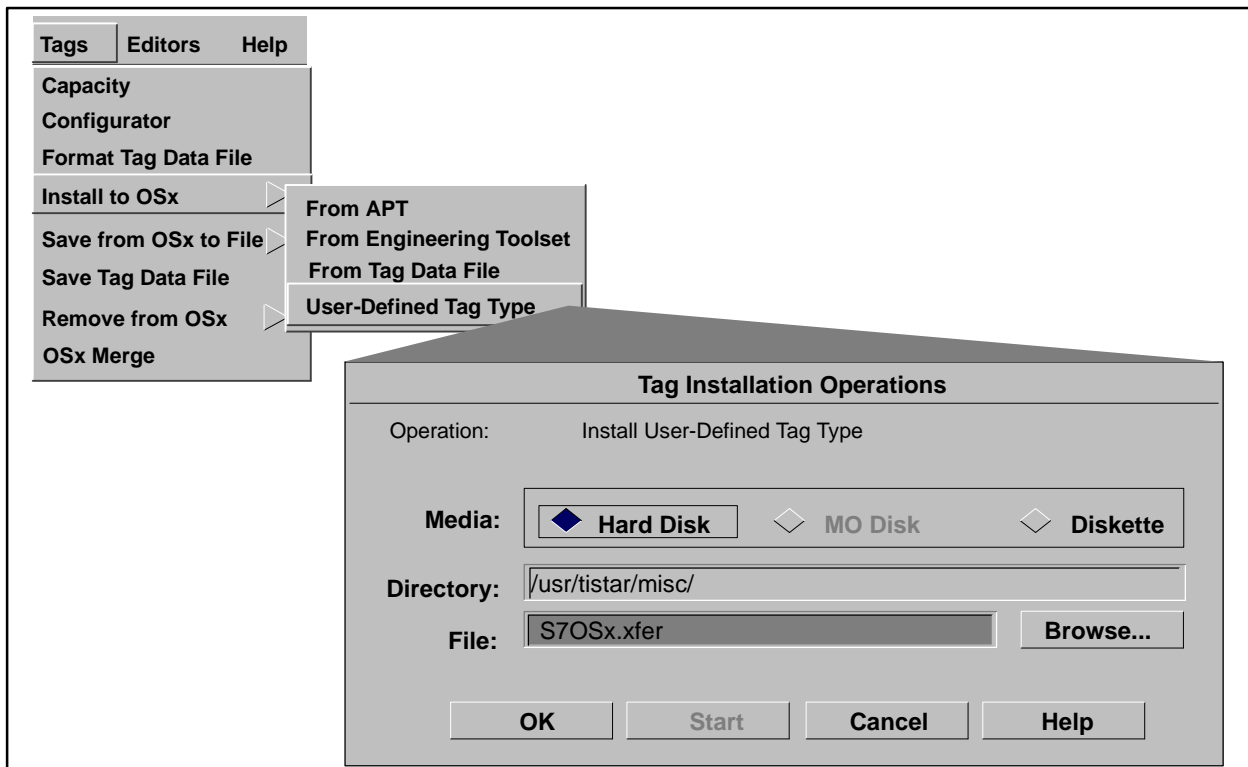

Figure 4-22 Installing New Tag Types
2. From the main screen of OSx, select **Tags->Install to OSx->User-Defined Tag Type**. The Tag Installation Operations dialog box appears (Figure 4-22).